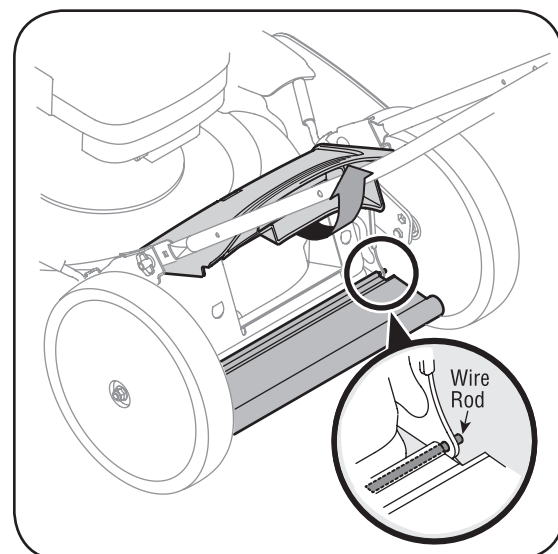

Figure 5-2: Cut wire to remove rear flap.
1. To remove rear flap, cut off the flat end of the wire rod which secures it to the deck, Figure 5-2.